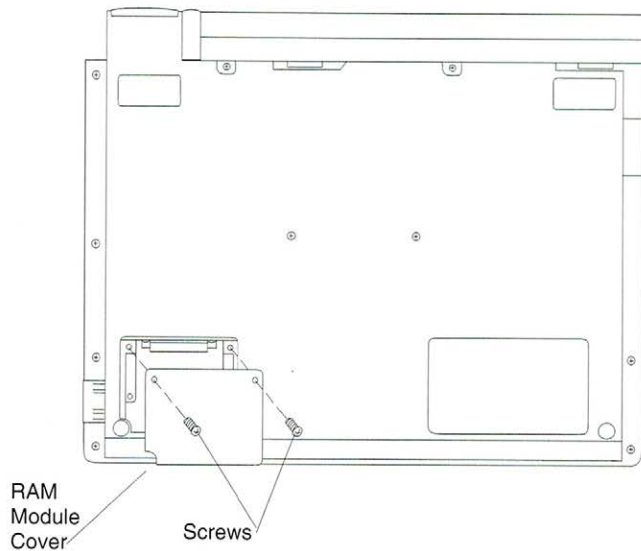

Figure B-1. Removing the RAM Module Cover
3. Use a Phillips-head screwdriver to remove the two screws from the RAM module cover, as shown in Figure B-1.
7. Replace the RAM module cover; refer to Figure B-1. Replace the two screws removed in Step 3.